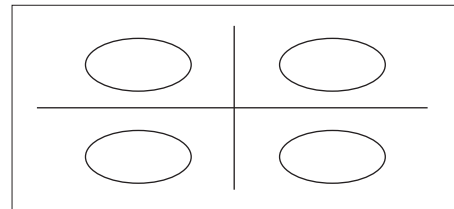

Fig. 1
- Move the mass (as long as the value chosen is less than one third scale capacity) around the corners of the platter without moving too close to the extreme outside of the platform. Please place the mass in the oval as shown in fig 1.